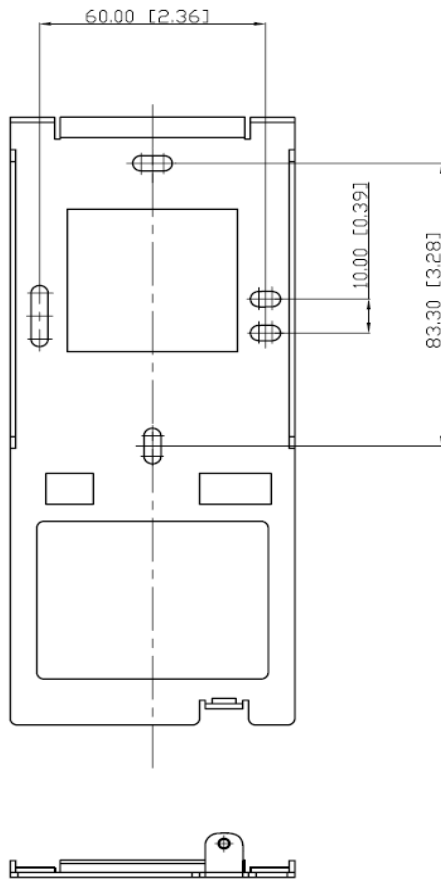

Fig. 1
- 1) Connected all necessary wire correctly, mount metal plate (Fig.1) onto gang box using two Stainless Steel screw.